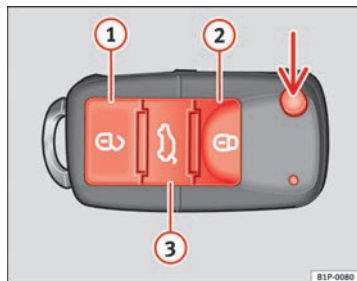

Fig. 62 Assignment of buttons on the remote control key
Using the button  \Rightarrow fig. 62 (arrow) on the control, the key blade is released.
Unlocking the vehicle  \Rightarrow fig. 62 ①.
Locking the vehicle  \Rightarrow fig. 62 ②.
Unlocking the tailgate. Press button  \Rightarrow fig. 62 ③ until all the turn signals on the vehicle flash briefly. When the unlocking button  ③ is pressed, you have 2 minutes to open the door. Once this time has passed, it will lock again.
Also, the battery indicator on the key \Rightarrow fig. 62, will flash.
When the button  \Rightarrow fig. 62 ①, is pressed once, the driver door is unlocked, all others remain locked.
Press the button  \Rightarrow fig. 62 ① twice to unlock all doors. ▶
- Press the  ⇒ fig. 62 button on the remote control.